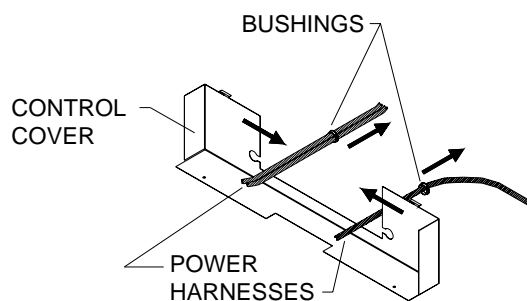

Figure 30 - Detaching Power Harnesses
5. Pop out the bushings on the control cover and slip the power harnesses free from the control cover. See **Figure 30**.